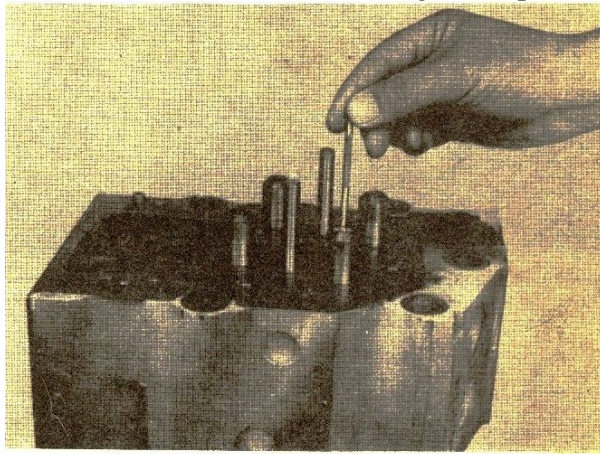

Fig. 2-10, Check the valve guide for out-of-round
- a. Measure the guide inside diameter. Use a small bore gauge set at 0.4989 inch [12.672 mm]. The gauge should not enter the bore at this setting. Table 2-1 (3).
- b. Measure for out-of-round holes. Set the gauge at several points of the head. Fig. 2-10. Visually check the valve guides for chips, cracks or sharp edges. Mark guides which show extra amounts of wear or damage for replacement.